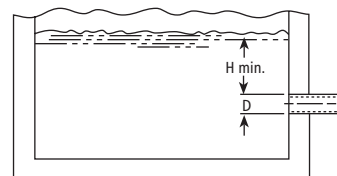

Figure 8
- Insure that the size and minimum submergence over suction inlet is sufficient to prevent air from entering pump through a suction vortex. See Figures 8 through 11.